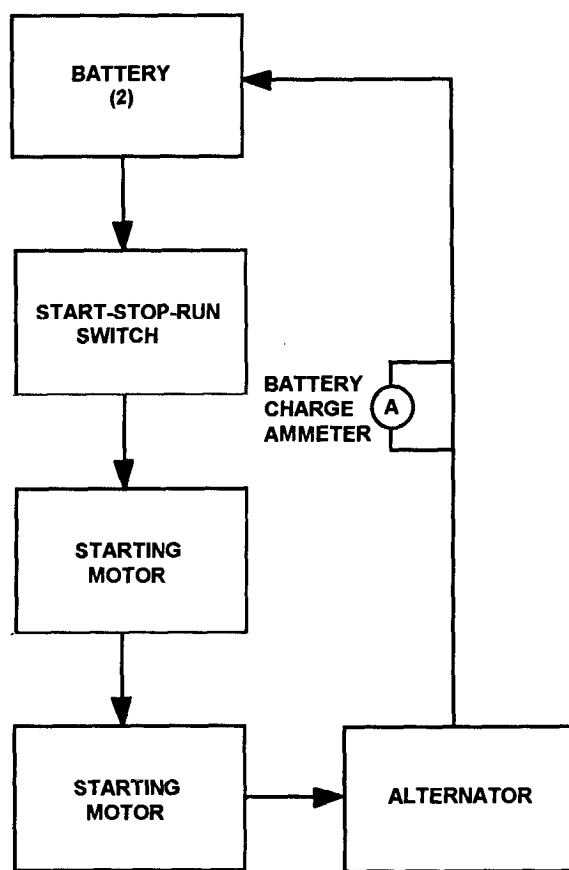

Figure 1-6. Engine Starting System
- a. The engine starting system (Figure 1-6) consists of two 12-volt batteries, a starting motor and a 24-volt battery charging alternator. With the START/RUN/STOP switch at START position, battery power is supplied to the starting motor through a relay and solenoid switch. The starting motor engages the engine flywheel causing the engine to turn over. After the engine starts, the starting circuit is de-energized when the START/RUN/STOP switch is set to RUN position. The generator set engine is stopped by positioning the START/RUN/STOP switch to STOP.